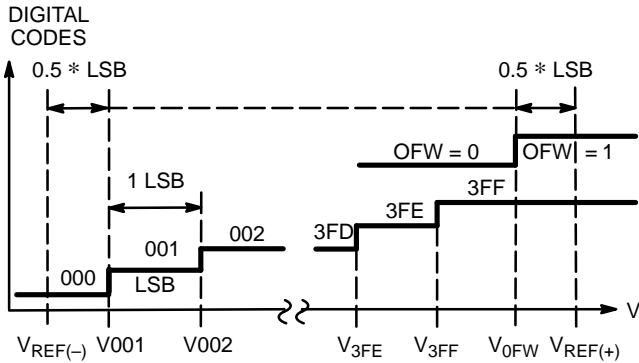
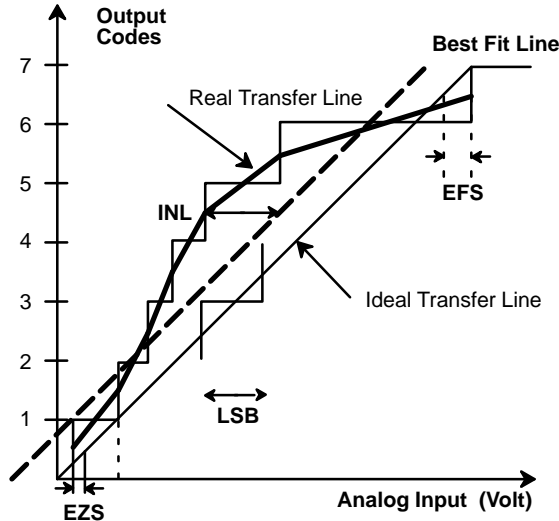

Figure 4. Ideal A/D Transfer Function
Figure 7. INL Error Calculation
- ² Tester measures code transition voltages by dithering the voltage of the analog input (V_{IN}). The difference between the measured code width and the ideal value ($V_{REF}/1024$) is the DNL error (see Figure 4.). The INL error is the maximum distance (in LSBs) from the best fit line to any transition voltage (See Figure 7.).
The transfer function for an ideal A/D converter is shown in Figure 4.
Figure 7. gives a visual definition of the INL error. The chart shows a 3-bit converter transfer curve with greatly exaggerated DNL errors to show the deviation of the real transfer curve from the ideal one.